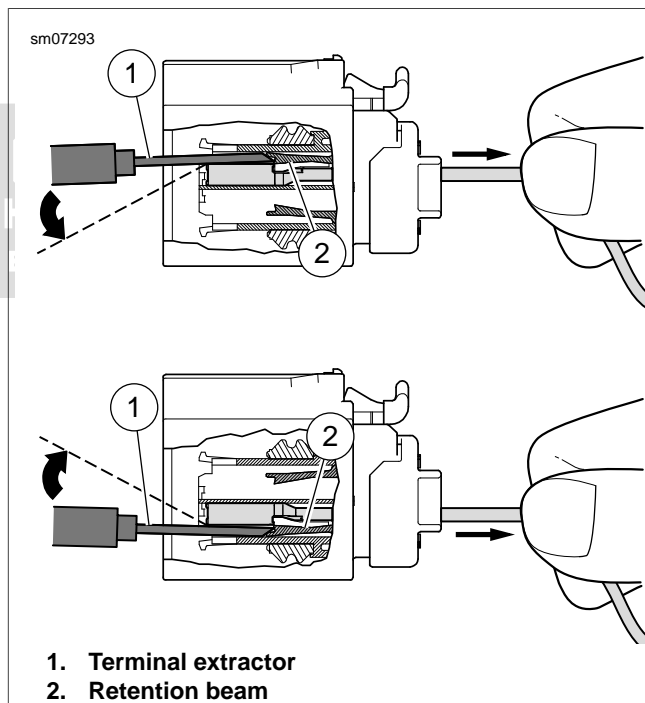

Figure A-67. Removing Terminals: Tyco GET 64 Sealed Connector
3. See Figure A-67. Orient the bevel of the TERMINAL EXTRACTOR (Part No. B-50085) (1) to the upper or lower terminal row. Insert the extractor into the slot adjacent to the terminal.